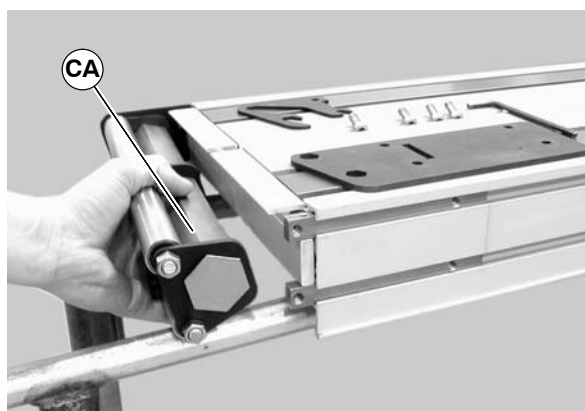

Figure 56
4. Slide the transfer tail pulley assembly (CA of Figure 56) out of the headplate on the opposite side.